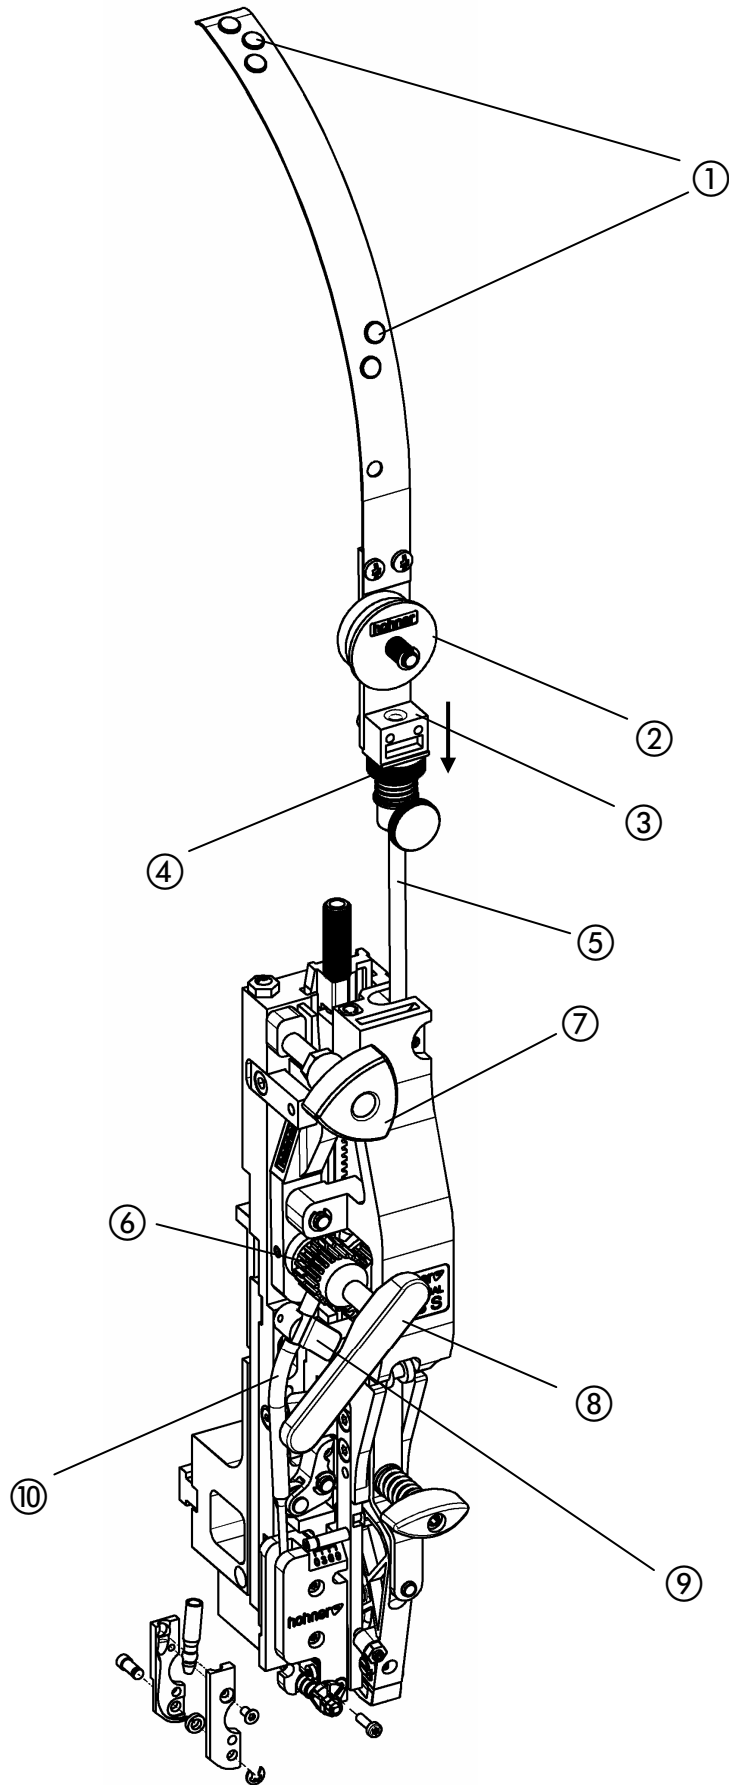

Abb. 9
- Fig. 9 -
- Shut off the wire transport (move triangular handle ⑦ in the "centre position").